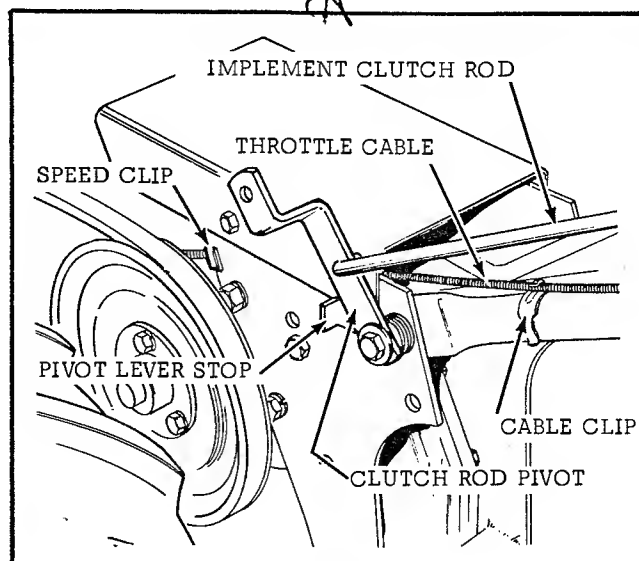
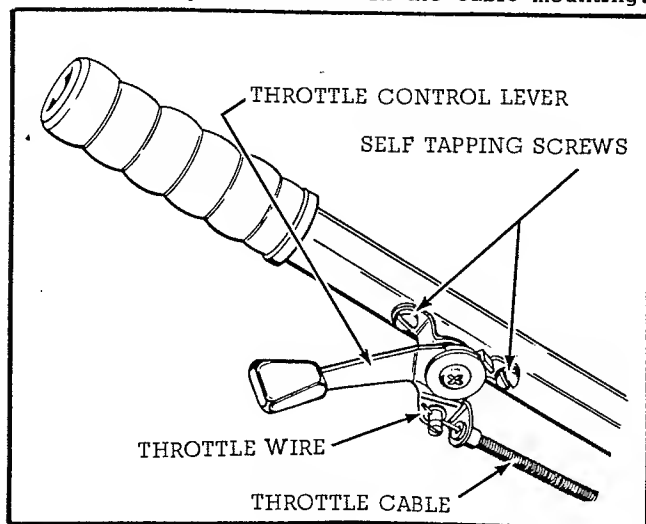

Fig. 2
Fig. 5
2. It will be noted that the tractor handle assembly has 3 rods and levers attached to it. These control the tractor clutch, implement clutch, and transmission shifting. The lever on the left hand side controls the implement clutch rod which is to be attached to the clutch rod pivot lever as shown in figure 2. Remove the handle mounting bolt and install the following parts in this sequence: 5 flat washers, pivot lever stop, bushing, pivot lever, 1 flat washer. Retighten the hex head capscrew and check to see that the end of the clutch rod does not hit on the side of the rear frame cover.
3. The speed of the engine is regulated by the throttle control lever. This control lever is already assembled to the throttle cable and for shipment is coiled up and fastened to the engine. Uncoil the throttle cable and pass the control lever under the cover of the rear frame. The cable is to be fastened to the rear frame at this point with a speed clip as shown in figure 2. Continue up the length of the left hand side of the handle assembly and clip the cable in place with cable clips. Fasten the throttle control lever to the left hand handle, using 2 self tapping screws as shown in figure 5. When properly mounted, the throttle will open when the lever is raised, and close when the lever is pushed down. Be certain that the throttle wire is held securely by the locking screw in the throttle lever, and that no kinks or sharp bends exist in the cable mounting.